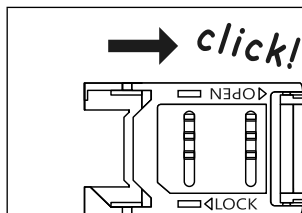

Fig. 38
1. On the GSM module slide the SIM holder on the back of the unit to the right until it 'clicks', as shown in **Fig.38**.